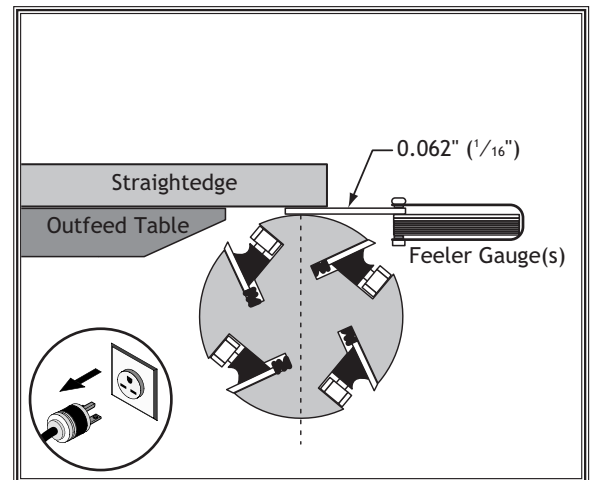

Figure 56. Using feeler gauge(s) to set outfeed table height.
5. Place the straightedge on the outfeed table so it hangs over the cutterhead, and lower the outfeed table until the straightedge is 0.062" ($\frac{1}{16}$ ") above the cutterhead body, as determined by using the feeler gauges (see **Figure 56**).